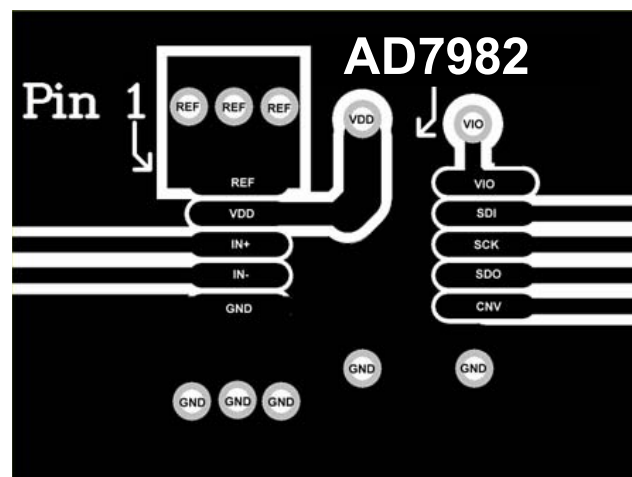

Figure 41. Example Layout of the AD7982 (Top Layer)
- SEE RECOMMENDED LAYOUT FIGURE 41 AND FIGURE 42.
An example of layout following these rules is shown in Figure 41 and Figure 42.